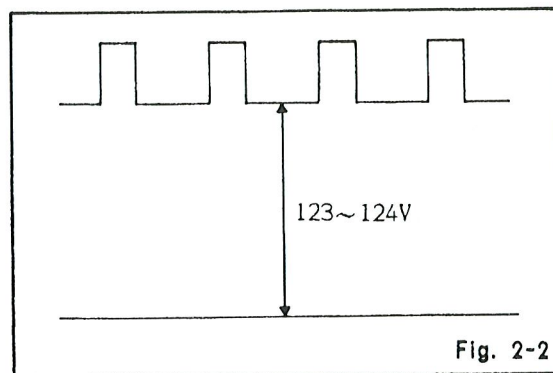

Fig. 2-2
4. Adjust VR402 to obtain 123 ~ 124V as show in Fig. 2-2.